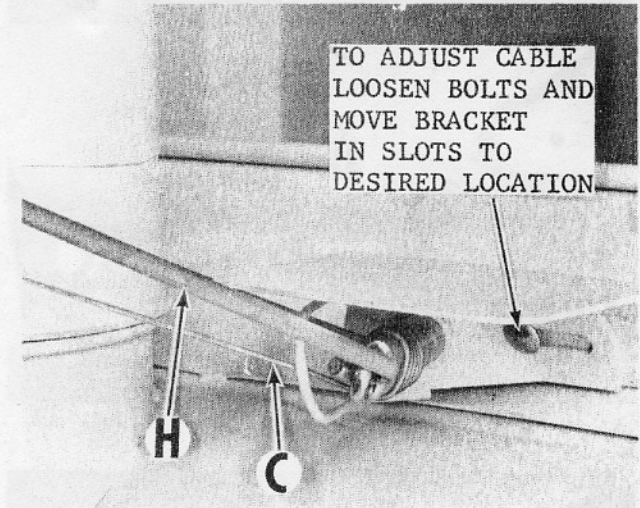

Fig. 17
Insert crank rod hooked end, Ref. H, through eye bolt at cable tube, Ref. C. Insert rod in support arm tube (M) as shown (Fig. 17).